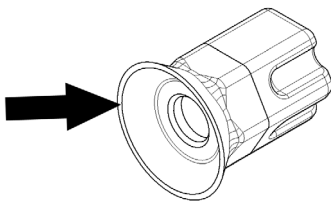

figure 18
**2 Every month:** check that the hexagonal joint gasket is not worn. If it is, replace the joint itself with an original spare part from the manufacturer (see figure 18).